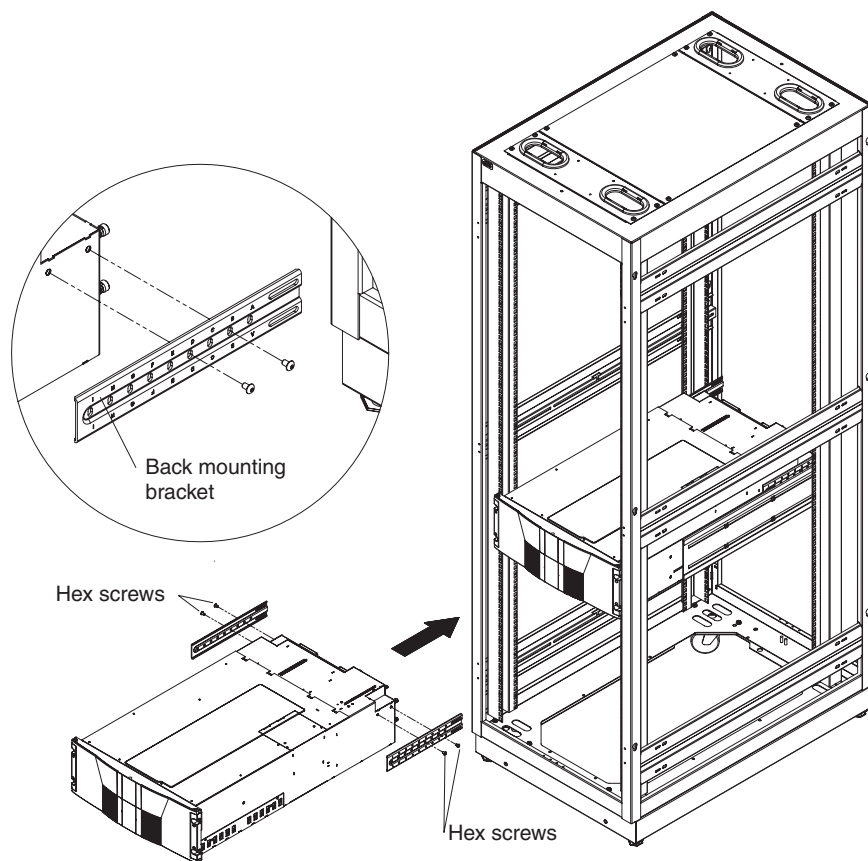

Figure 9. Installing the back mounting brackets
10. Attach a back mounting bracket to each side of the library, using two M5 x 8 hex screws as shown in Figure 9.